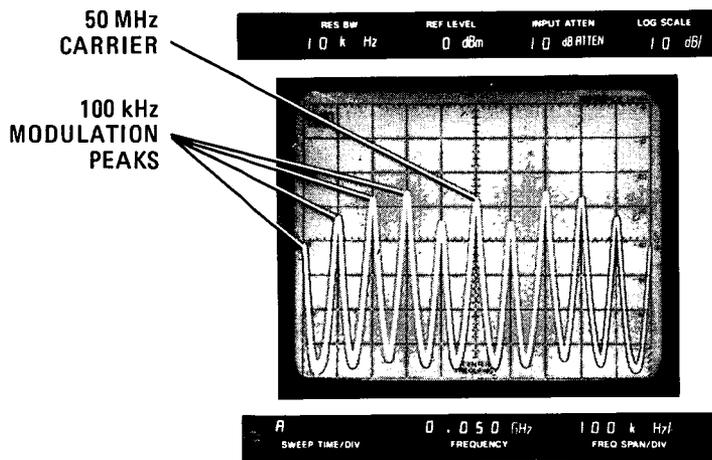

Figure 5-44. Spectrum Analyzer Display with 100 kHz FM
- h. Center 50 MHz carrier frequency on spectrum analyzer CRT display, set 8640B FM switch to INT and adjust signal generator peak deviation for uniform amplitude of 100 kHz modulation peaks (Figure 5-44).